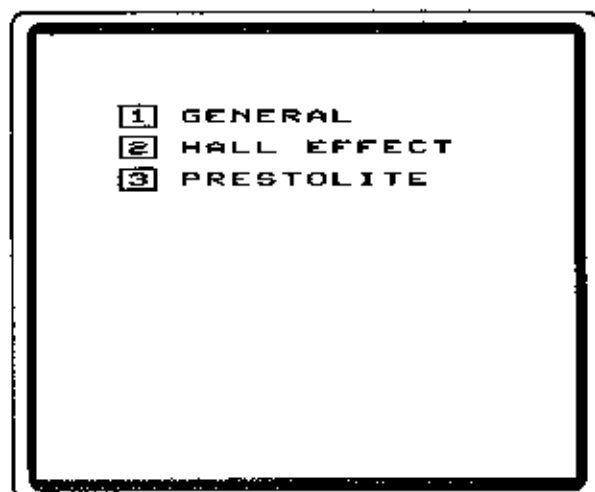

Figure 82
1. Connect test leads (according to Module Test Leads Hookup). Select the vehicle system you are testing (see Figure 82).